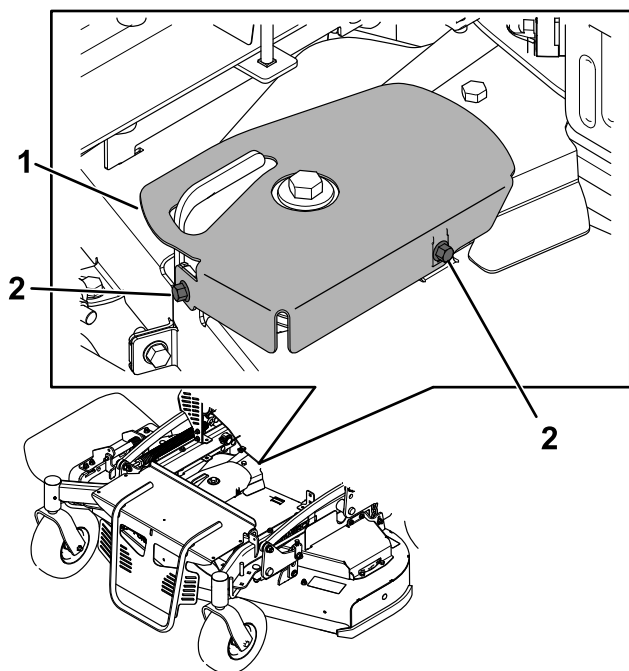

Figure 37
2. Remove the idler cover (Figure 37).
4. Install the idler cover (Figure 37).